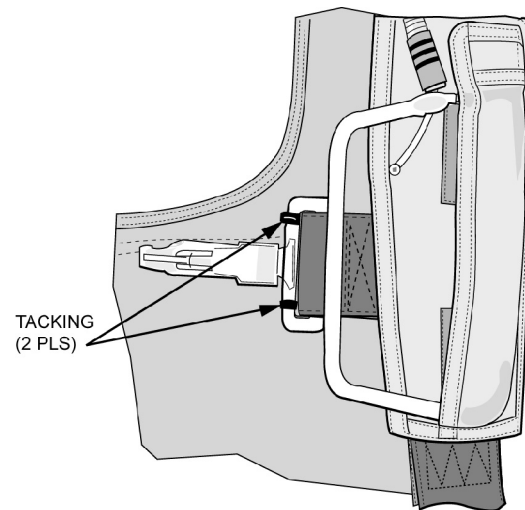

Figure 3. Chest Strap Snap Ejector Strap Stiffener Tacking (Front View)
b. Tack using Tape, Lacing & Tying 12-in. long and a needle. Tack through chest strap snap ejector stiffener and around webbing slot of snap ejector using two turns, single, tied with a surgeon's knot, followed by a square knot. Trim off excess. Repeat process on other side (Figures 3 and 4).